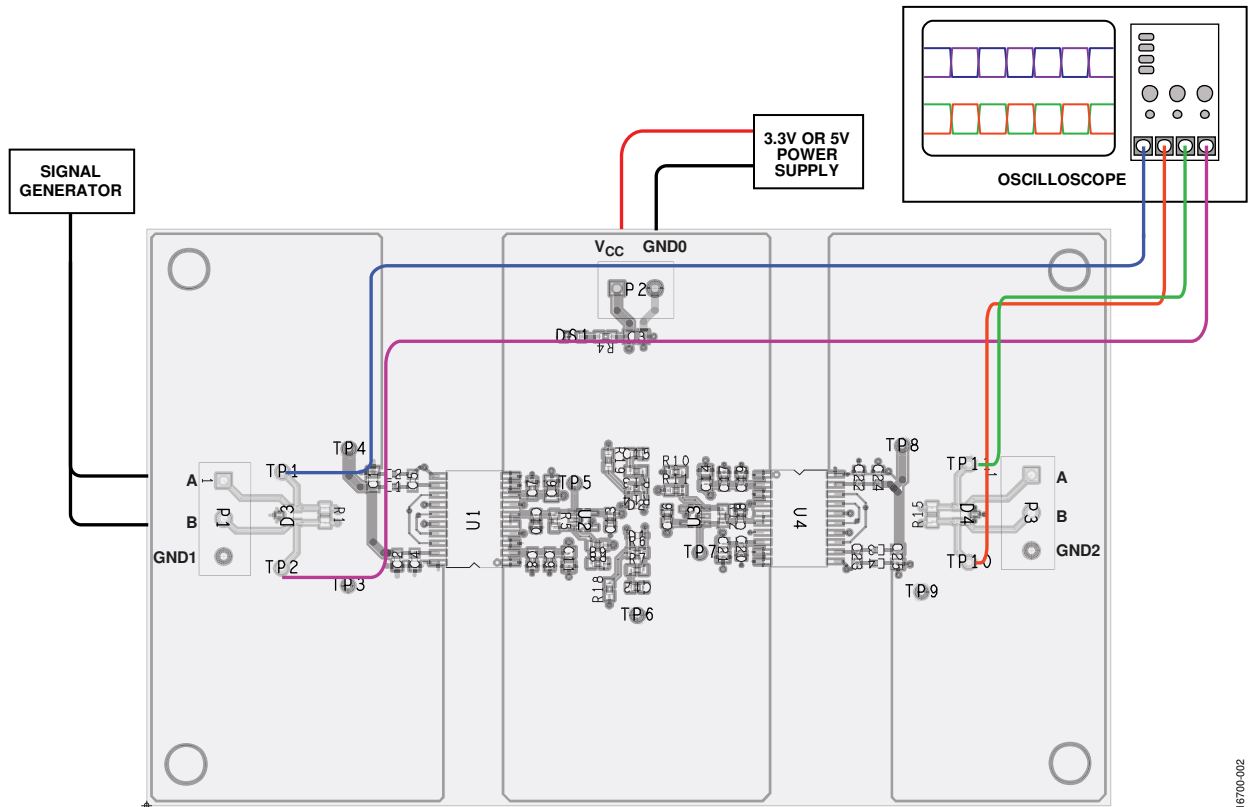

Figure 2. Basic Operation of the EVAL-ADM2587EEB2Z Isolated RS-485 Repeater Evaluation Board
Figure 2 shows the EVAL-ADM2587EEB2Z evaluation board. The evaluation board does not require jumper connections because flow control is implemented with an ADCMP600 high speed comparator circuit. The board is configured as half-duplex and has a 120 Ω termination resistor fitted on the receiver inputs. Test points are included on the power and signal lines on both sides of the isolation barrier. Power the evaluation board with 3.3 V or 5 V on the P2 terminal block. Confirm basic operation of the evaluation board using a signal generator at the P1 terminal block. Refer to the Cable Connection and Bus Capacitance section for more information. Use an oscilloscope to confirm that the voltage waveforms at TP1 (A) and TP2 (B) match the output of the RS-485 repeater at TP10 (B) and TP11 (A).
Use the EVAL-ADM2587EEB2Z P1 and P3 terminal blocks to attach a Category 5e RS-485 cable to the ADM2587E A and B bus pins. Route the RS-485 cable to other RS-485 evaluation boards to create a multinode setup. Alternatively, use a signal generator to simulate bus differential voltage inputs to P1, as shown in Figure 2. In this configuration, insert a 1.5 nF wire wound capacitor between the A and B connectors on both the P1 and P3 terminal blocks. This 1.5 nF capacitor simulates the capacitance from 20 m of Category 5e RS-485 cable.